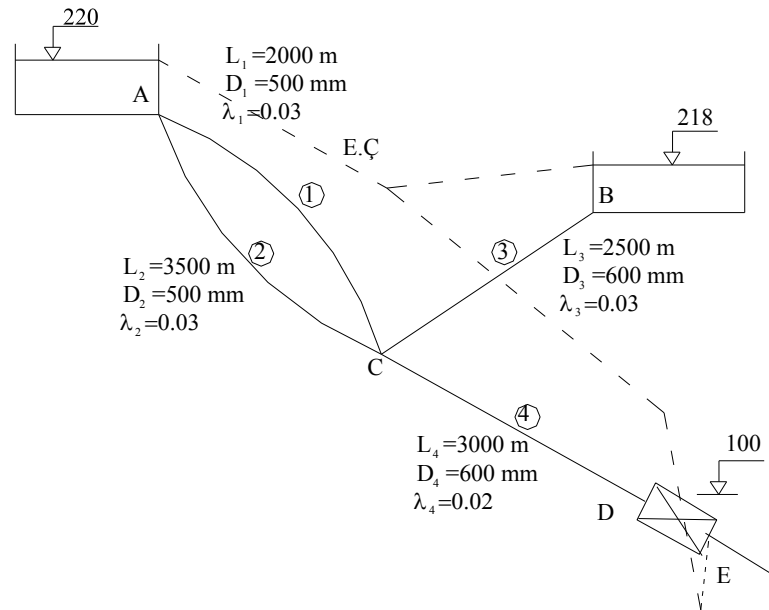

Figure 7.8
**Problem 7.8:** The discharge from the reservoir A to reservoir C is 400 lt/s in Figure 7.8. The pressure at the outlet of the turbine DE is -5 mwc. Find the power which could be obtained from the turbine and draw the energy grade line of the system.